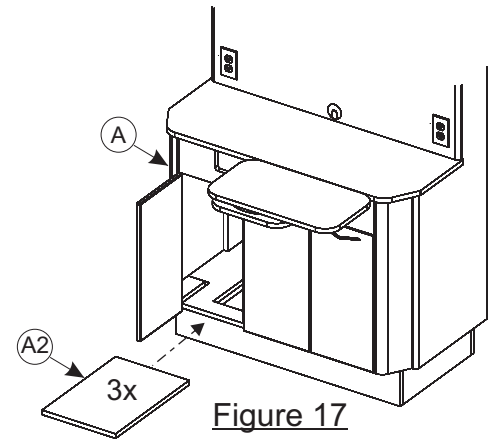

Figure 17
Open the Lower Cabinet (A) doors and reinstall the Bottom Cover (A2) in each door section (see Figure 17). You may need to tilt the bottom covers to remove from door opening.